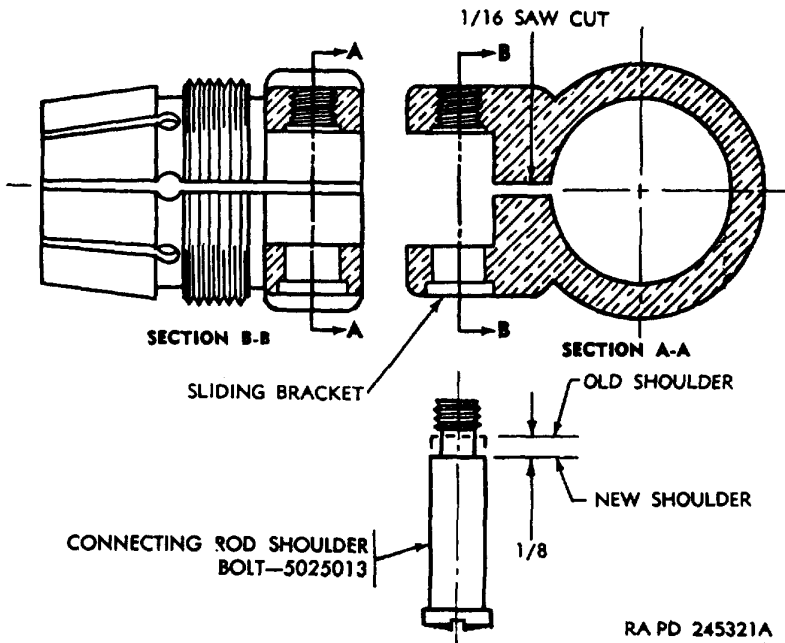

Figure 36. Sliding bracket modification.
- Increase clamping action of sliding bracket on left leg by extending the slots in the bracket to 1 inch long (fig. 36). Also, extend one slot up through the portion of the bracket which clamps around the connecting link and turn back the shoulder on the connecting rod shoulder bolt one-eighth of an inch.
- Replace pins (M), if damaged.